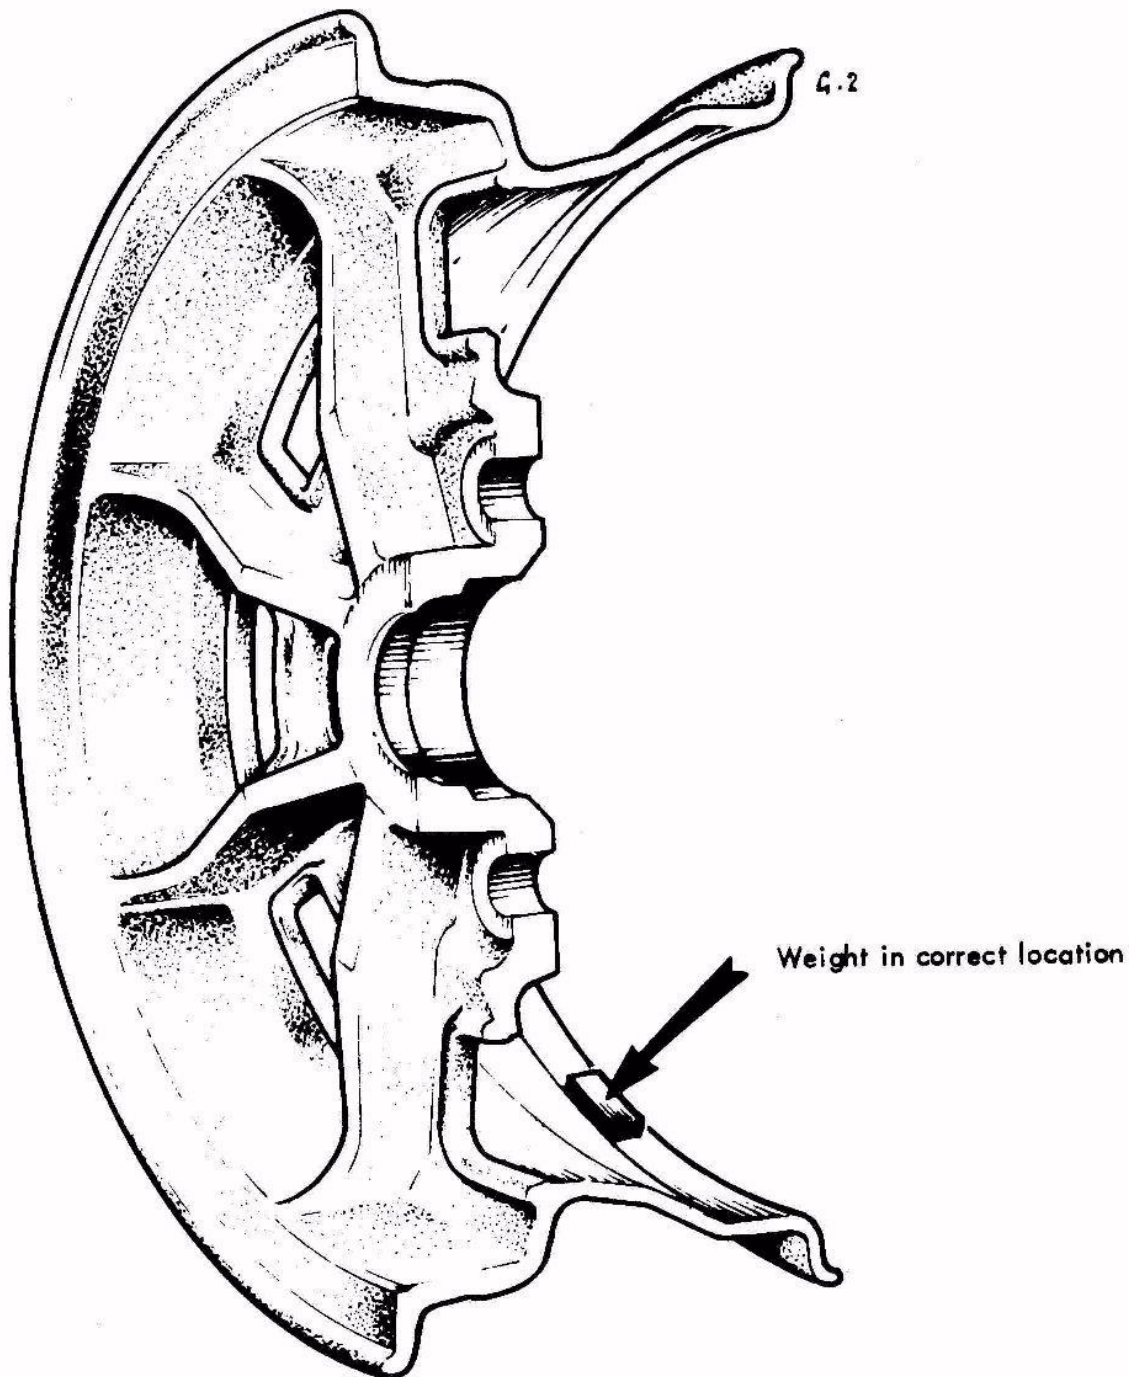

Fig. 1. ALLOY WHEEL SHOWING CORRECT LOCATION OF BALANCE WEIGHTS.
3. It is **IMPORTANT** that any balance weights are hard up against the corner radius of the wide part of the inside of the wheel { see Fig. 1 . }